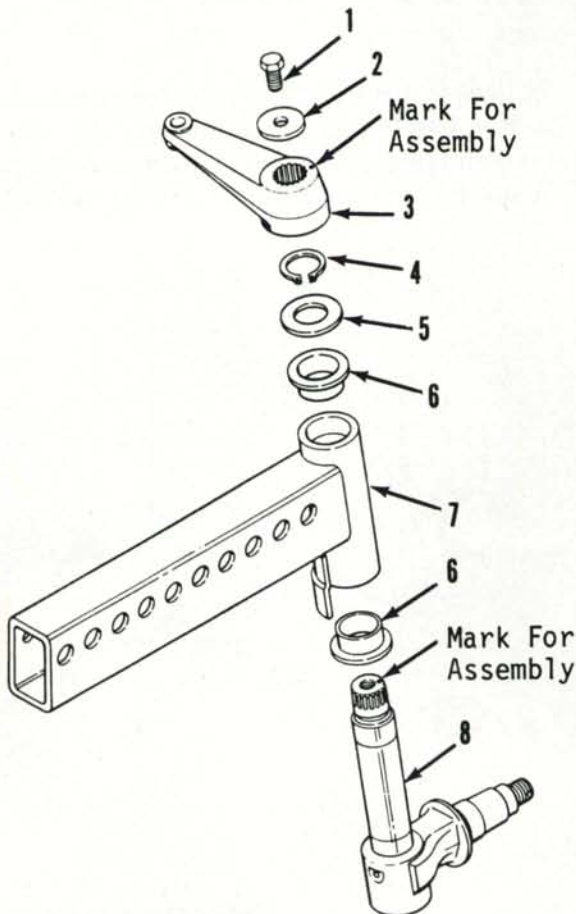

Fig. 2—Exploded view of steering spindle used on all two-wheel drive tractors. Note assembly marks.
2. **R&R SPINDLES.** To remove spindle, lift and support front of tractor and remove wheel. Disconnect tie rod ball joint from steering arm (3—Fig. 2). Remove bolt (1) and washer (2) from arm (3). Note index punch marks on arm and shaft indicating location of tapered splines for left or right steering arm, then remove steering arm. Support spindle and remove snap ring (4) and washer (5), then remove spindle (8) from axle extension (7).
3. **SPINDLE BUSHINGS.** With spindles removed, spindle bushings (6—Fig. 2) can be removed using a suitable drift punch. New bushings are presized and should not require reaming if carefully installed.